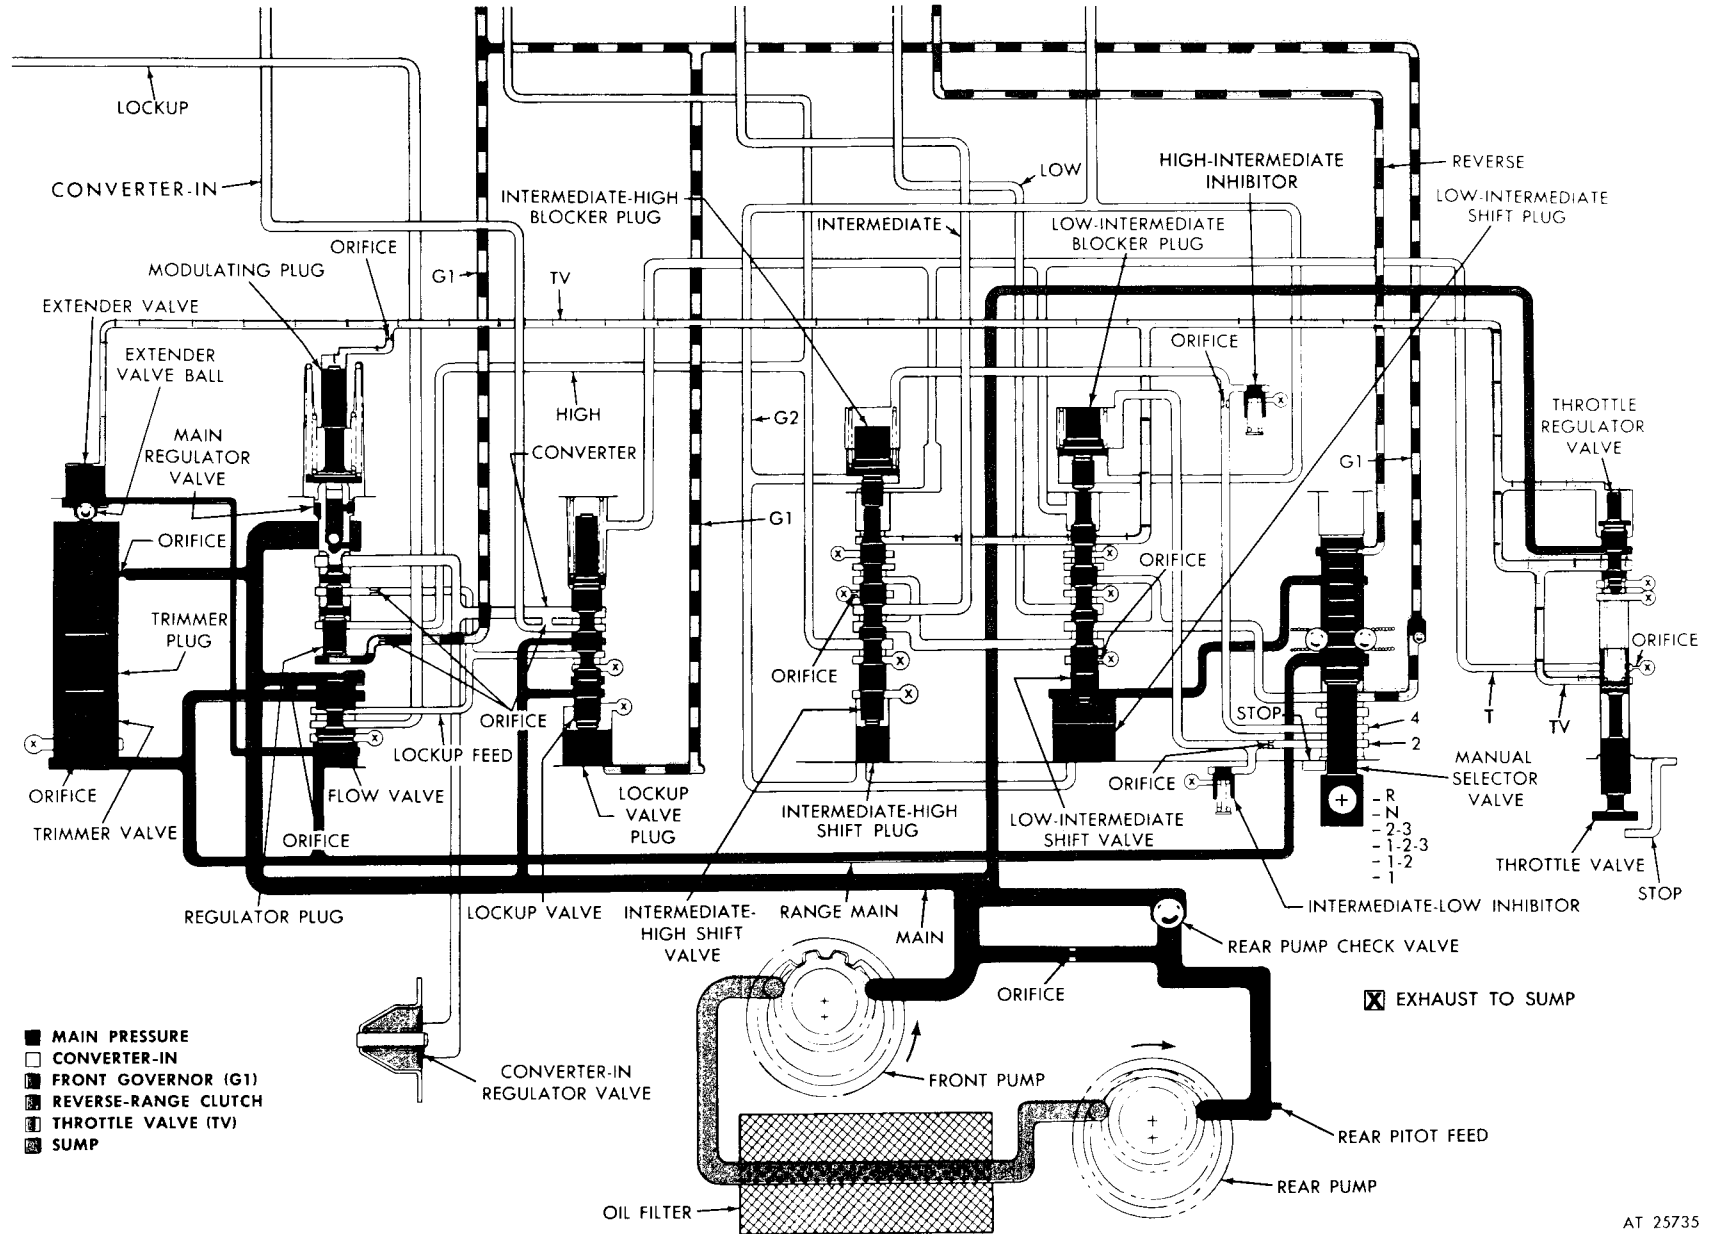

Figure 2-8. Hydraulic system, reverse-range operation—schematic view.
a. *Main-Pressure Circuit* (red—fig. 2-8).
(1) In reverse-range operation, the main pressure circuit functions as described in paragraph 2-15a, except for the distribution of oil at the manual selector valve. Here, the valve is at its extreme upward position. This permits oil to flow into the reverse-range clutch circuit. When the valve is at any other position, the reverse-range clutch exhausts into the manual selector valve bore above the selector valve.
(2) The rear oil pump rotates in the reverse direction and allows a small volume of oil to return to the sump. This oil must come through the orifice connecting the front and rear oil pump output lines. Oil passing through this same orifice keeps the rear fluid velocity governor supplied.
b. Converter-In Circuit (yellow—fig. 2-8). In reverse-range operation, the converter-in circuit functions as described in paragraph 2-14b.
c. Front Governor (GI) Circuit (blue, black—fig. 2-8). In reverse-range operation, the front governor circuit functions as described in paragraph 2-14 c.
d. Reverse-Range Clutch Circuit (blue, red—fig. 2-8). The reverse-range clutch circuit is supplied, at the manual selector valve, by main pressure.
e. Throttle Valve (TV) Circuit (blue, yellow—fig. 2-8). In reverse-range operation, the throttle valve (TV) circuit functions as described in paragraph 2-15f.